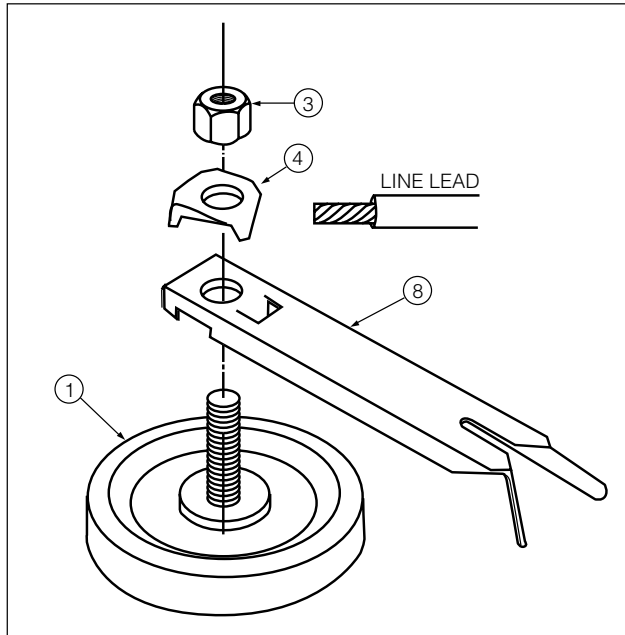

Figure 1. Detail of arrester line terminal connections.
1. Mount the surge arrester on the transformer sidewall as shown in Figure 1. Note that the grounding strap is connected to the lower of the two mounting studs.
1. Insert the transformer contact arm (item 7) through the optional transformer bushing wildlife protector (Item X) and into the transformer terminal connector located at the top of the transformer bushing. Position the contact arm so that the open end of the "V" faces away from the arrester as shown in Figure 1. Securely tighten the transformer terminal and lower the optional wildlife protector down over the bushing terminal.